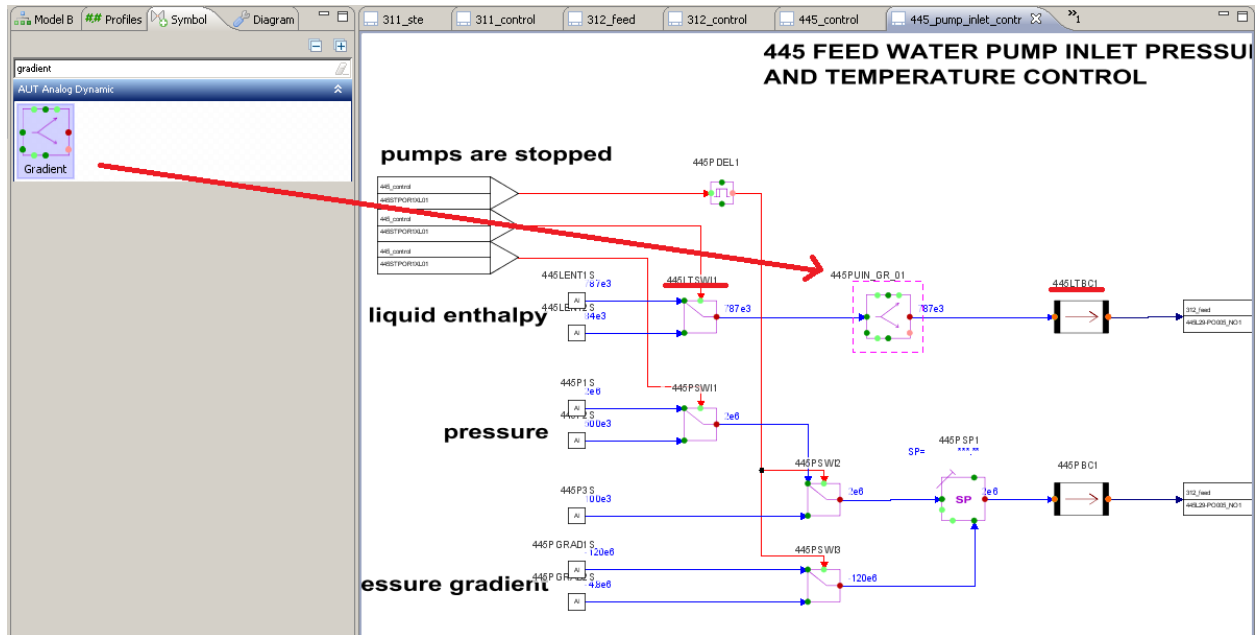

Figure 13. Adding a Gradient component between 445LTSWI1 and 445LTBC1 in “445_pump_inlet_control” diagram
7. Add a gradient component between 445LTSWI1 and 445LTBC1 in "445_pump_inlet_control" diagram (see Figure 13).